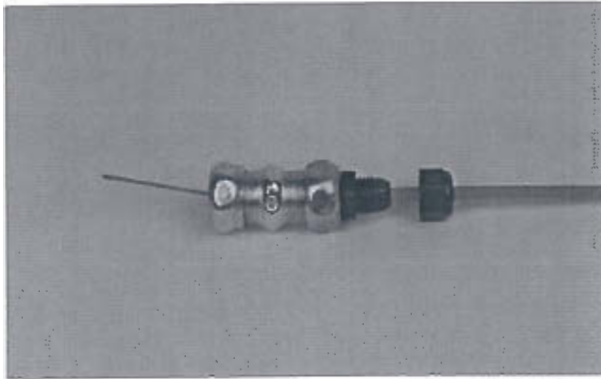

FIGURE 94
4. Install strain relief body into compression union and tighten. See Figure 94.